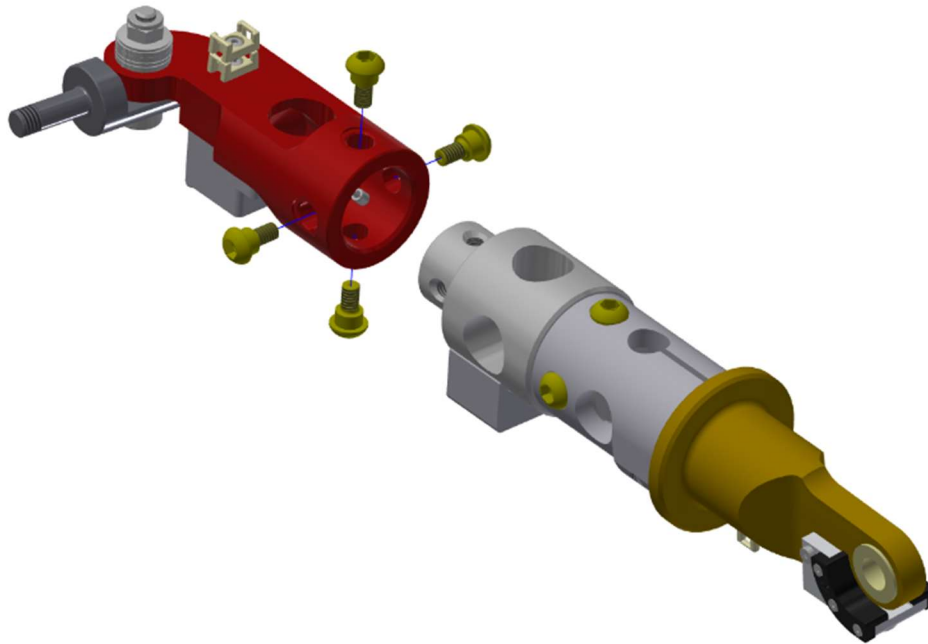

Figure 11-38. Attach the Distal Upper Arm Tube (484-6110-1,2) to the Upper-Lower Arm Load Cell Structural Replacement (484-6106)
11.3.14 Attach the Distal Upper Arm Tube (484-6110-1,2) to the Upper-Lower Arm Load Cell Structural Replacement (484-6106) using four Modified BHSS M6 Thread (W50-61042) (Figure 11-38).